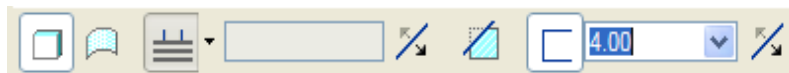
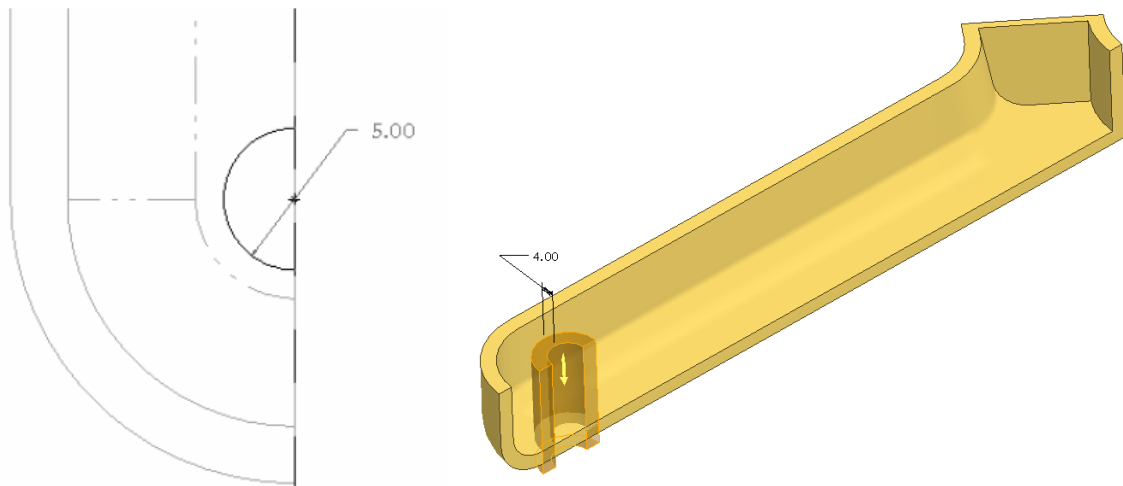

Figure 8 – The Dashboard
Figure 9 – Thin Protrusion
- Now for something rare in extrusions. Create a new extrusion. From the dashboard choose the Sketch icon then pick the datum plane **TOP** by clicking on it in the graphics window or in the browser. Draw the sketch in Figure 9 (a simple semi circle) and exit sketcher . On the dashboard (Figure 8) choose the up to next surface option and use the button to make sure the extrusion is going the correct direction – towards the inside of the leg.